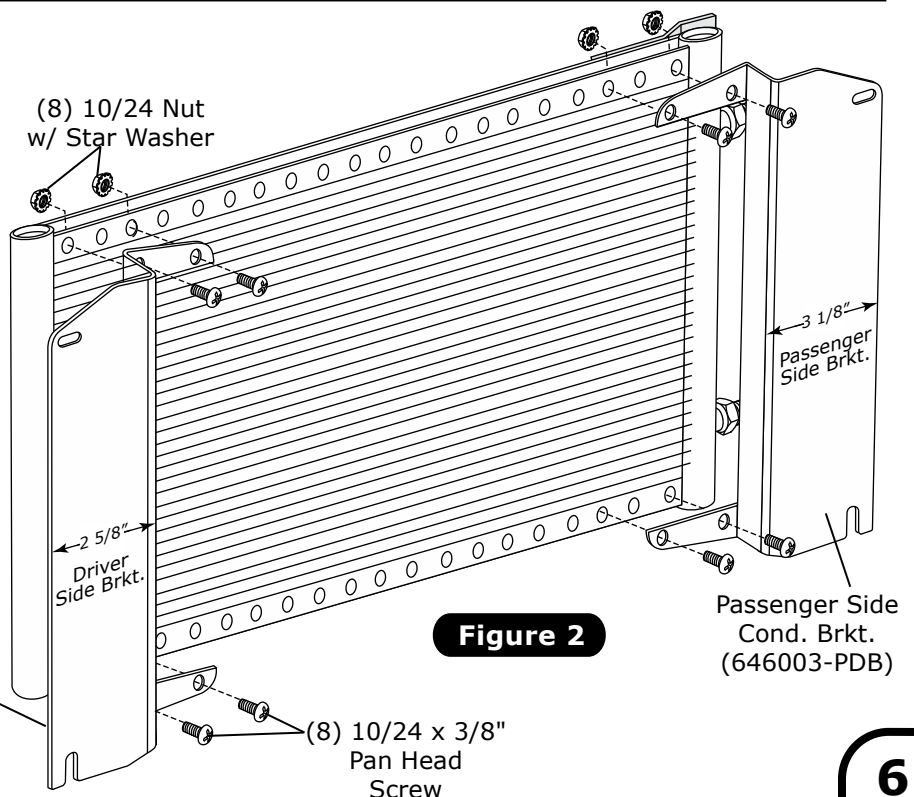

Figure 2
1. Install condenser mounting bracket on condenser using (8) 10/24 x 3/8" pan head screws and (8) 10/24 nuts with star washers (See Figure 2, below). **NOTE: Brackets mount through the first and third holes in the condenser.**